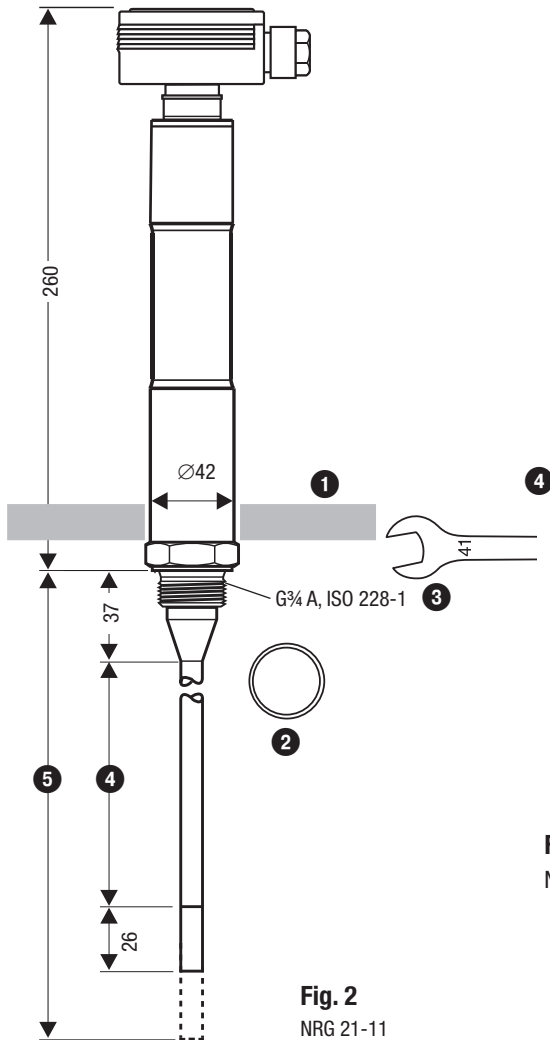

Fig. 4
- The sealing surfaces of the standpipe or flange cover must be accurately machined as shown in **Fig. 4, 5**.
1. Check the sealing surfaces. **Fig. 4, 5**
2. Place the supplied sealing ring ❷ on the sealing surface of the standpipe or flange cover. **Fig. 4, 5**
3. Coat the electrode thread ❸ with a small amount of temperature-resistant silicone grease (e.g. WINIX® 2150).